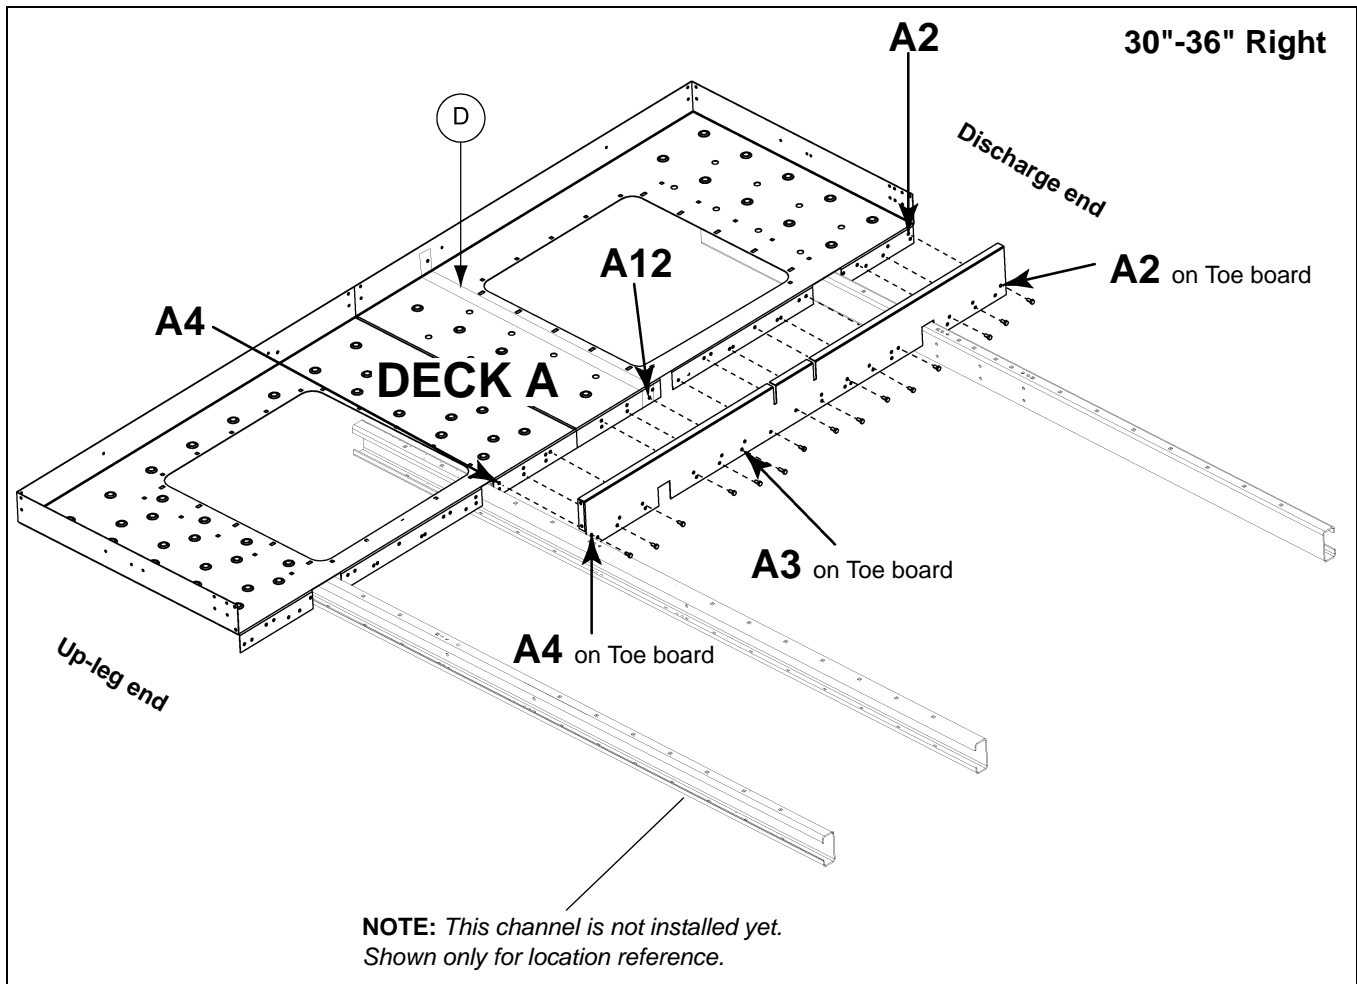

Figure 8I
- e. For both 30" and 36" - Deck hole **A2** to toe board hole **A2**. (See Figure 8I on Page 59.)
NOTE: At this time, the head platform hatch deck support (HP36HDS) (D) should be installed **UNDER** Deck A. Line this up with hole **A12** on the deck flange near hatch opening and install at the same time attaching deck to toe board. (See Figure 8I on Page 59.)
- b. Deck hole **A4** to toe board hole **A4**. (See Figure 8I on Page 59.)